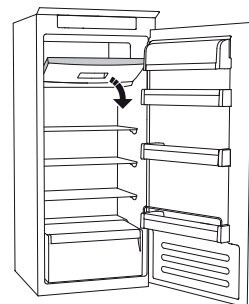

Figure 2
- Unfasten the STOP FROST accessory (figure 2) and remove it (figure 3). Note: if the accessory is jammed or difficult to remove, do not keep trying to remove it, but proceed with the complete defrost of the freezer compartment.